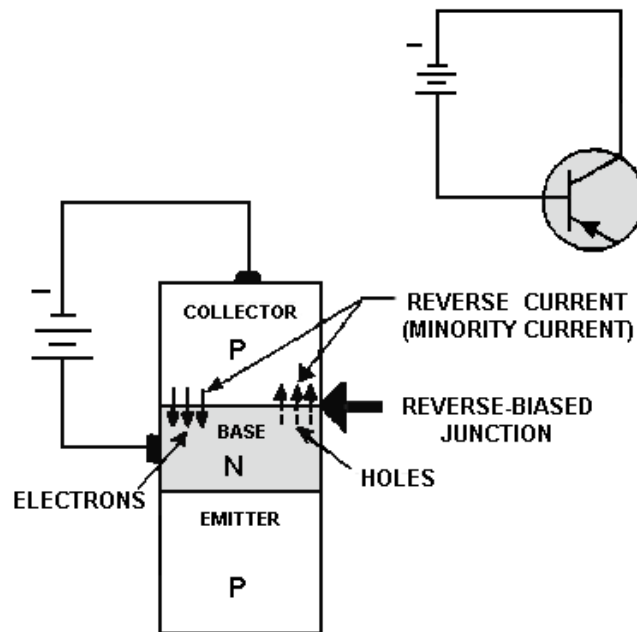

Figure 2-10.—The reverse-biased junction in a PNP transistor.
**PNP REVERSE-BIASED JUNCTION.**—In the reverse-biased junction (fig. 2-10), the negative voltage on the collector and the positive voltage on the base block the majority current carriers from crossing the junction. However, this same negative collector voltage acts as forward bias for the minority current holes in the base, which cross the junction and enter the collector. The minority current electrons in the collector also sense forward bias—the positive base voltage—and move into the base. The holes in the collector are filled by electrons that flow from the negative terminal of the battery. At the same time the electrons leave the negative terminal of the battery, other electrons in the base break their covalent bonds and enter the positive terminal of the battery. Although there is only minority current flow in the reverse-biased junction, it is still very small because of the limited number of minority current carriers.